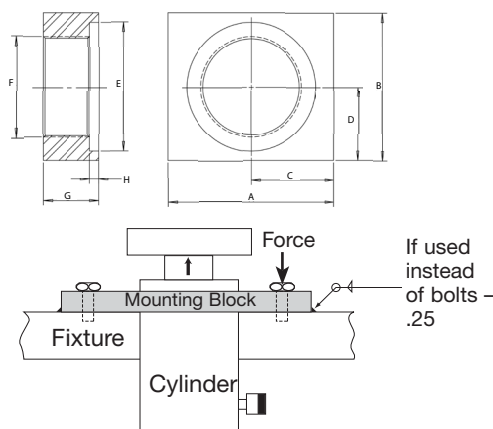

Fig. 1
2. Install mounting block and cylinder on the fixture so load forces are absorbed by the block and fixture not the mounting bolts. See figure 1 for recommended mounting position.